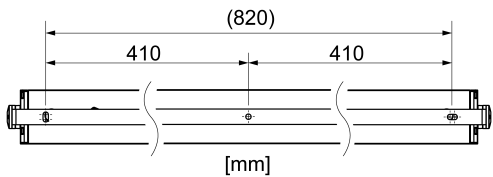

Figure 2: Drilling dimensions
- To install the luminaire, first loosen the side clamping discs (3) using a TORX 30 pin wrench and remove the retainer clamp (6) from the luminaire housing (1).
- Fit boreholes (Figure 2).
- Fasten the retainer clamps (6) to the installation substrate using two suitable screws.
- Insert the luminaire housing (1) into the retainer clamp (6).
- Push on the clamping discs (3) on both sides of the retainer clamp and hand-tighten the screw using a TORX 30 pin wrench.